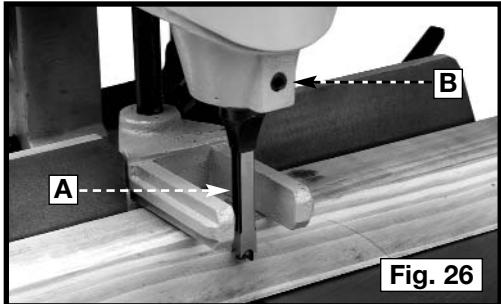

Fig. 26
The chisel (A) Fig. 26 can be adjusted parallel to the workpiece by loosening the screw (B) and rotating the chisel until the back surface of the chisel is touching the workpiece. Tighten the screw (B).